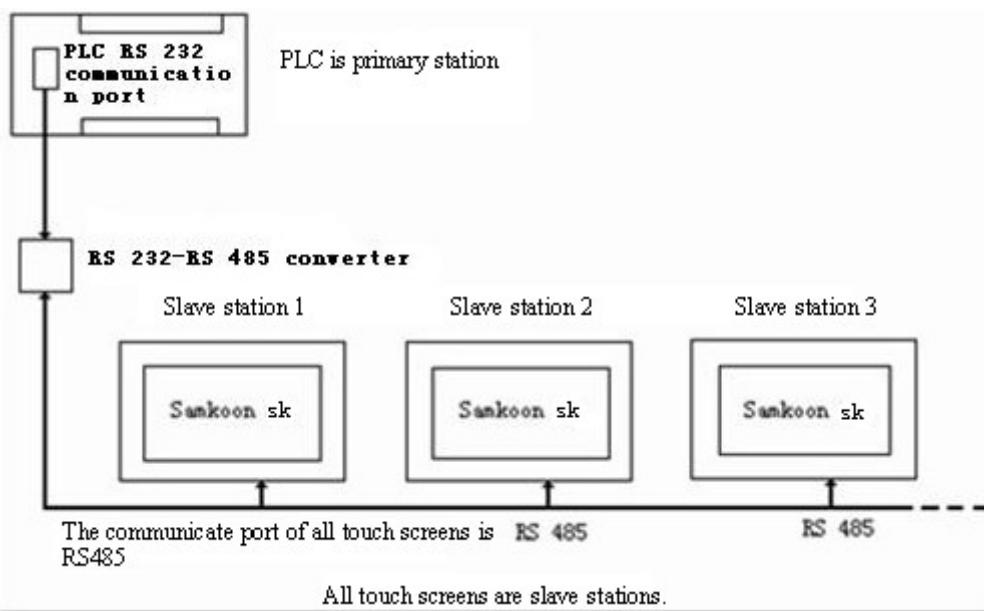

Figure 8-1 Schematic diagram of connection mode “One device with multiple screens” When PLC (RS232) is primary station
1. The communication port RS232 connected with PLC, connection method and system setting are as shown in figures 8-1, 8-2 and 8-3.